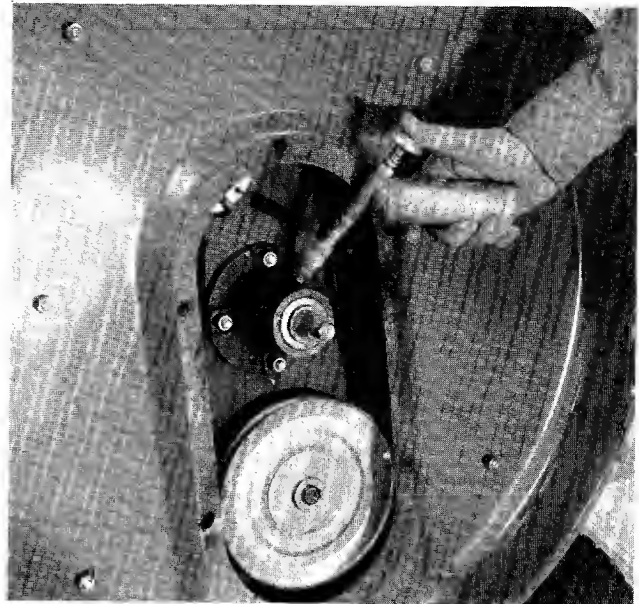

FIGURE 15. GREASING BLADE SPINDLE
Step 2. Remove the inspection plate as shown in figure 15. Grease the blade spindle with a grease gun. Use a multi-purpose automotive type grease.